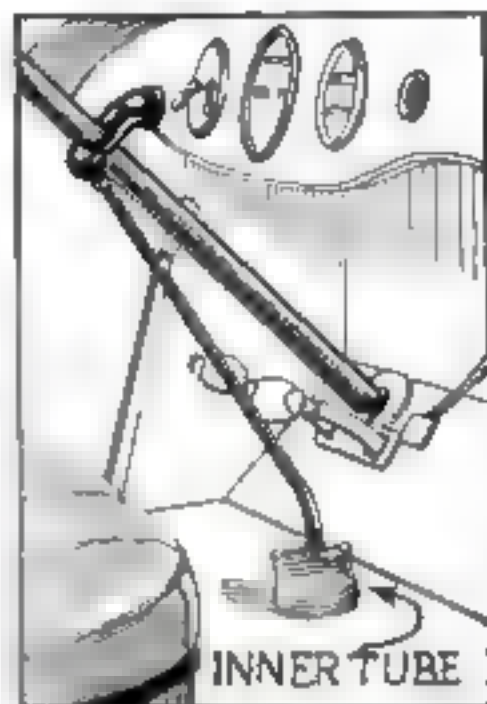

Fig. 3. A piece of inner tube around gear shift base protects the shoes.
**I**N MANY types of cars grease has a tendency to work out to some extent, around the bottom of the gearshift lever. The shoes of a driver are likely to come in contact with this grease and be stained. To eliminate the trouble, cut a short section from an old inner tube and slip it over the gearshift lever to the bottom, as in Figure 3. This idea will prove valuable particularly in protecting light colored shoes. If the piece fits too loosely, it can be held in place by a thin band of rubber cut from the same tube and doubled.